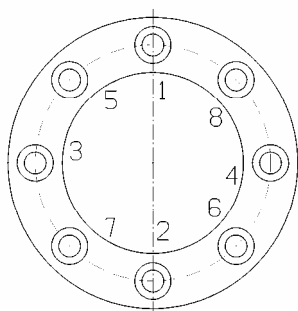

Figure 1
5. Tighten the screws in a crisscross sequence by using a calibrated torque wrench. Go on until you reach 50% of the torque value specified for the screws in the table (see figure 1).